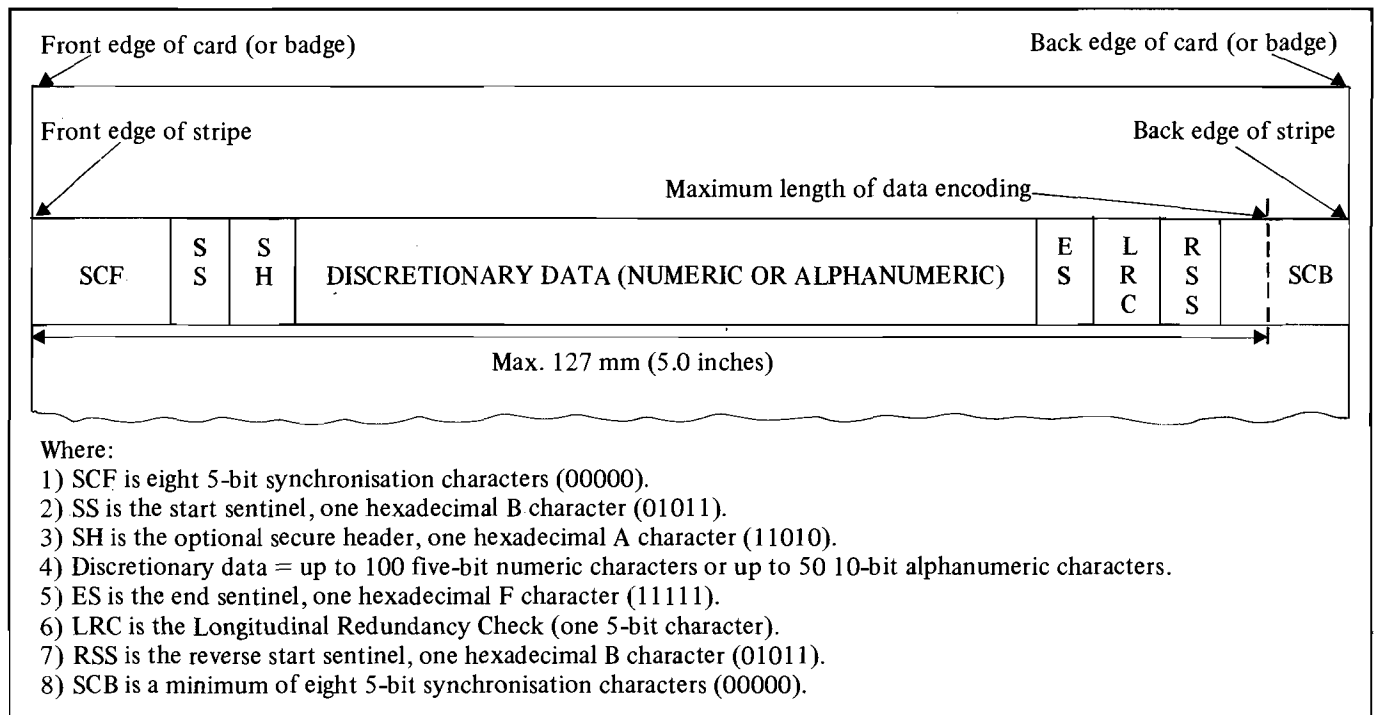

Figure 11-9 Format of IBM 3630 Encoding
- 2) An LRC (Longitudinal Redundancy Check) character. The LRC character must be calculated from the start sentinel (SS) to the end sentinel (ES) inclusive. The reverse start sentinel (RSS) following the LRC must not be included in the LRC calculation, see figure 11-9. The LRC is an even bit parity longitudinal parity check character. i.e. the four data bits of the LRC character (weighted 1,2,4 and 8) must be such that there is even parity on all the corresponding bits from SS to ES inclusive.
Stripe format (see figure 11-9). The lead-in from the front edge of the stripe to the start sentinel must comprise eight 5 bit synchronisation characters (i.e. all zeroes without parity). The discretionary data may be up to 100 five bit numeric characters long or up to 50 ten bit alphanumeric characters long.
The format of the magnetic stripe is shown in figure 11-9. This figure shows the magnetic stripe on the front of an IBM 3630 compatible card.